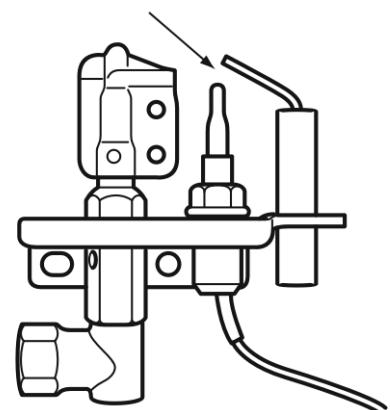

Figure 6. Pilot spark gap
9. Check ignition spark: Before attempting to install, it is worth checking that the piezo electric spark ignition system operates satisfactorily. To initiate the spark, temporarily refit the control knob to the spindle. Depress the knob and while keeping it depressed, turn to the 1/IGN position. Two separate sparks should track from the electrode pin to the thermocouple tip. If there are no sparks or incorrect tracking, check the spark gap between the electrode wire and thermocouple tip (See figure 6). If the spark gap is correct, check the ignition wiring.